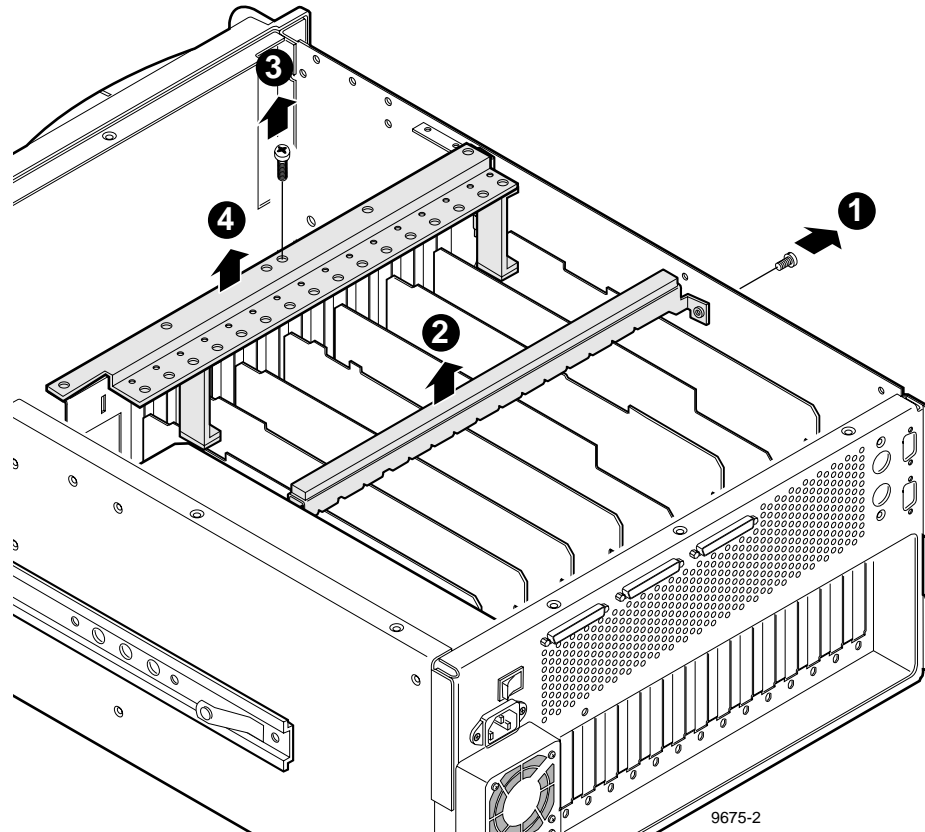

Figure 2. Removing the Circuit Board Hold-downs
There are two hold-down brackets located in the circuit board area that must be removed in order to remove and replace circuit boards. Figure 2 shows these brackets.
1. Use the Torx tool with the T10 tip to remove the screw (❶ in Figure 2) which secures the rear board hold-down.
2. Lift the hold-down (❷ in Figure 2) up and out of the chassis and set aside.
3. Use the Torx tool with the T10 tip to remove the screw (❸ in Figure 2) which secures the front board hold-down.
4. Lift the hold-down (❹ in Figure 2) up and out of the chassis and set aside.